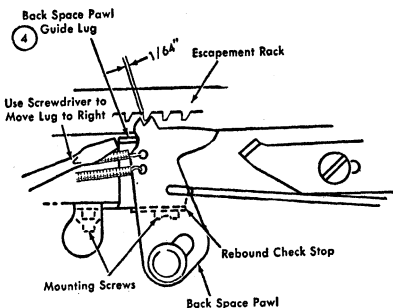
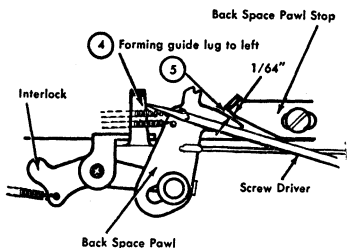
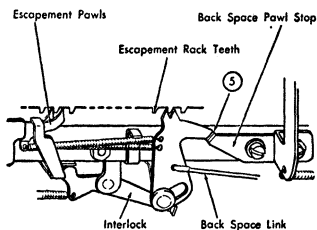

Figure 36. Guide Lug Adjustment
Figure 37. Space Stop Clearance
Figure 38. Backspace Pawl Stop Adjustment
4. BACKSPACE PAWL GUIDE LUG. Adjust the backspace guide lug by forming left or right so that the backspace pawl enters the escapement rack with approximately $\frac{1}{64}$ " clearance between the working surfaces of the pawl and the rack teeth. Figure 36 illustrates a method of forming the guide lug to the right. Figure 37 illustrates a method for forming it to the left.
an escapement pawl to drop into the next rack tooth, stop turning the motor coupling. Move the backspace pawl stop so that it just touches the backspace pawl. Lock the screws (Figure 38). The stop should also be positioned front or rear so that, when the interlock is actuated and the backspace is operated, the backspace pawl will clear the stop by about $\frac{1}{64}$ " (Figure 37).